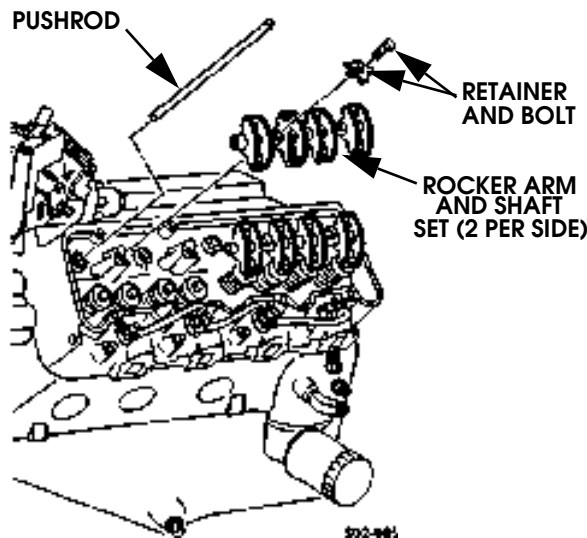

Figure 2-78: Rocker Arm and Shaft Removal
1. Remove rocker arm retainers and bolts (Figure 2-78).